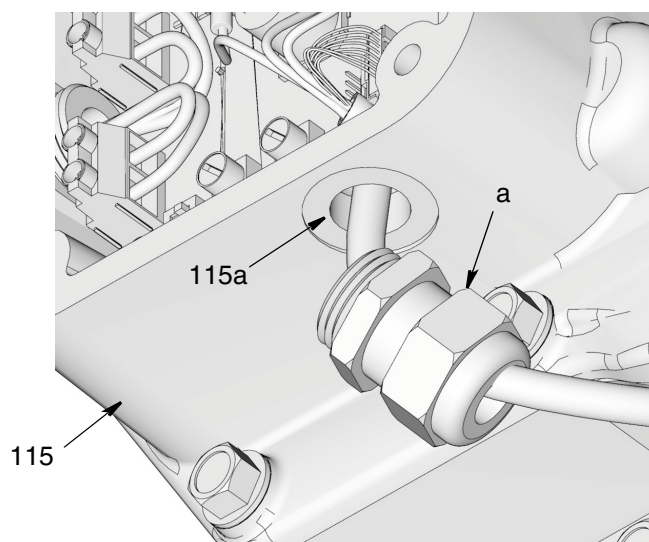

FIG. 58
4. Feed motor wire harness (a) through strain relief opening (115a) in housing (115) (FIG. 58).